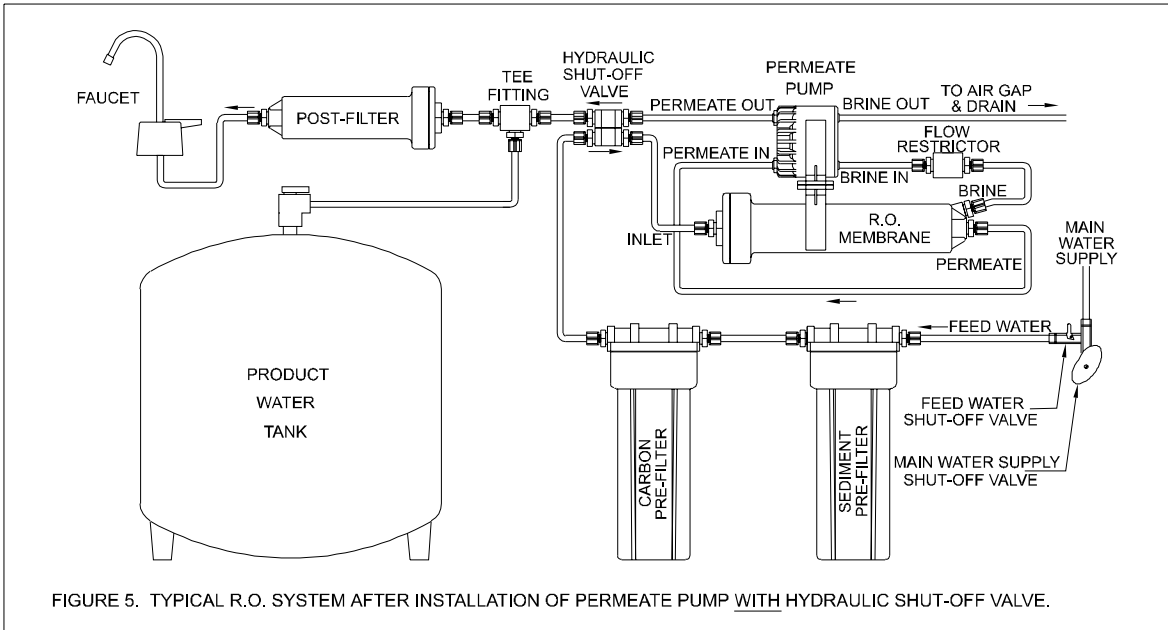
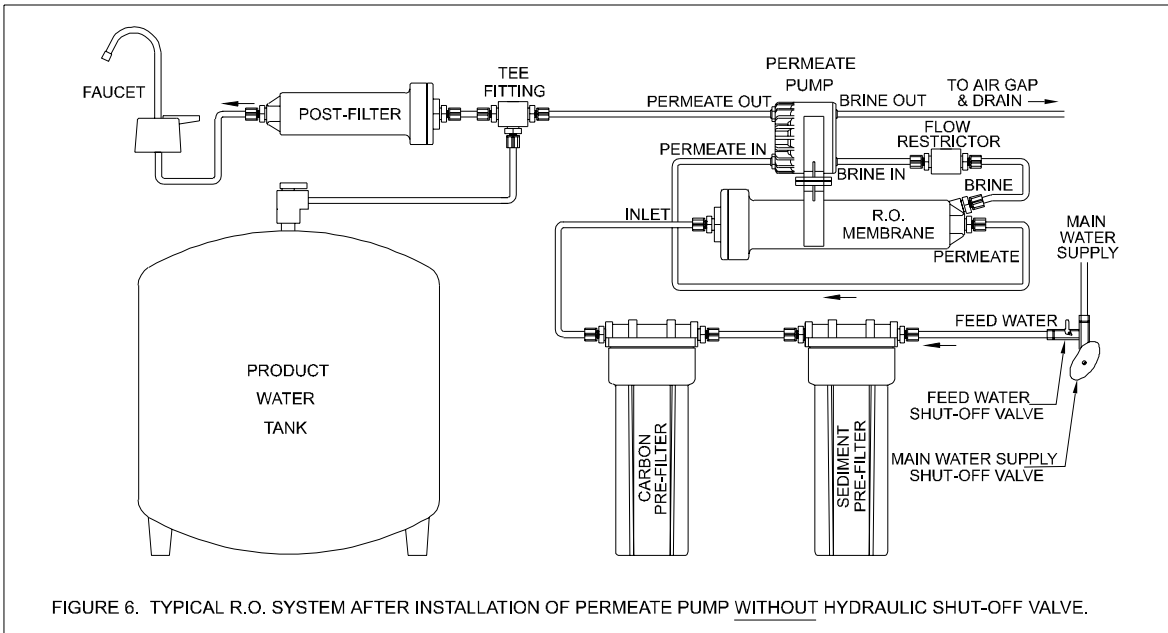

FIGURE 5. TYPICAL R.O. SYSTEM AFTER INSTALLATION OF PERMEATE PUMP WITH HYDRAULIC SHUT-OFF VALVE.
FIGURE 6. TYPICAL R.O. SYSTEM AFTER INSTALLATION OF PERMEATE PUMP WITHOUT HYDRAULIC SHUT-OFF VALVE.
- b. Connect a new tube from the "**PERMEATE OUT**" fitting on the **Permeate Pump** to the inlet side of the hydraulic shut-off valve as shown in Figure 5. Be sure the tube bottoms out on the fitting. If it is desired not to use the hydraulic shut-off valve, connect the permeate pump as shown in Figure 6 (see installation notes).
As shown in Figure 6, the hydraulic shut off valve may be removed from the system and the Permeate Pump will operate as the shut off valve. This configuration may be used only if a substantial volume of water is drawn from the tank each time. The benefit is that the system will produce more water than with the shut off valve installed. If however, the amount of water withdrawn is small (a cup at a time), it is recommended that the hydraulic shut off valve be retained as shown in Figure 5. This will reduce TDS creep of the RO membrane. The addition of the Permeate Pump decreases the time to fill the tank, but it does not reduce the amount of water produced. For manifold type RO systems, contact the factory for installation recommendations.
- Mounting:** Always mount with outlet ports up. Mounting clip (ABS) with (2) #10 S.S. screws available
- Retrofit Mounting:** Order membrane clip if required (Figure 3). Base of Membrane clip attaches to base of Permeate Pump clip with supplied fastener. Permeate Pump can then be mounted to membrane with clip assembly as shown in Figures 5 & 6.